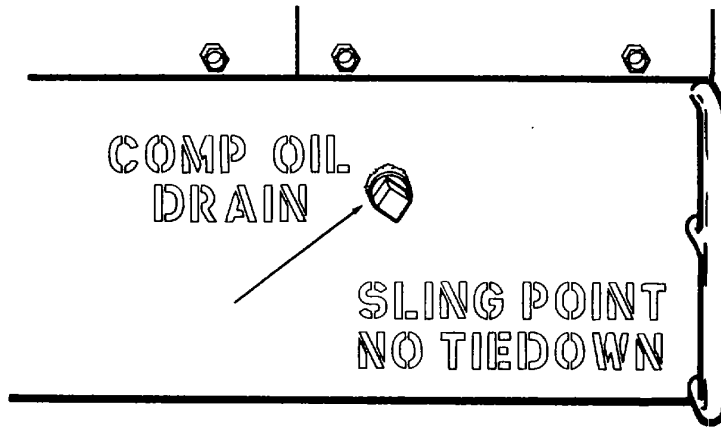

Figure 5-8. Compressor Oil Drain
- (1) Drain compressor oil. (Figure 5-8)